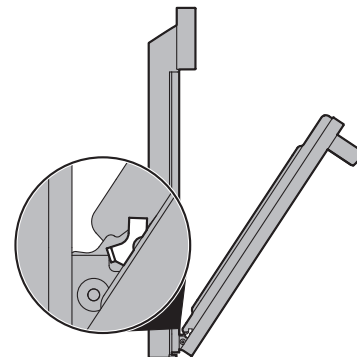

Figure 24: Removal position
3. Grasp the door by the sides, and close the door until the door frame makes contact with the unlocked hinges (Figure 24).
2. Hold the oven door at the same angle as the removal position (Figure 24). Carefully insert the hinge levers into the oven frame until you feel the hinge levers are seated into the hinge notches. The hinge arms must be fully seated into the hinge notches before the oven door can be fully opened.